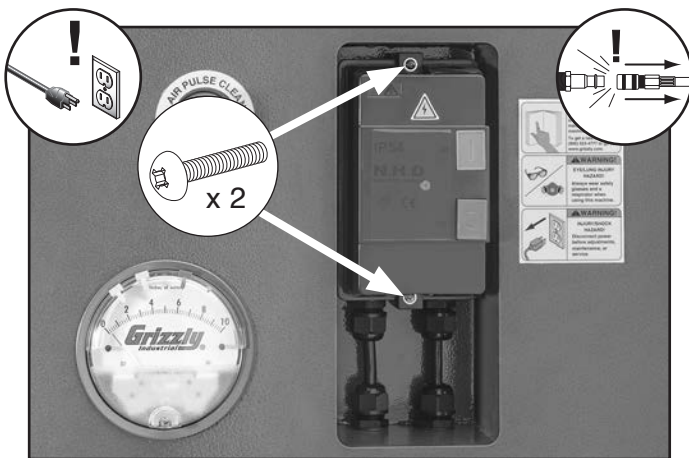

Figure 5. Location of switch cover screws.
3. Loosen (2) Phillips head screws and remove magnetic switch cover (see **Figure 5**).